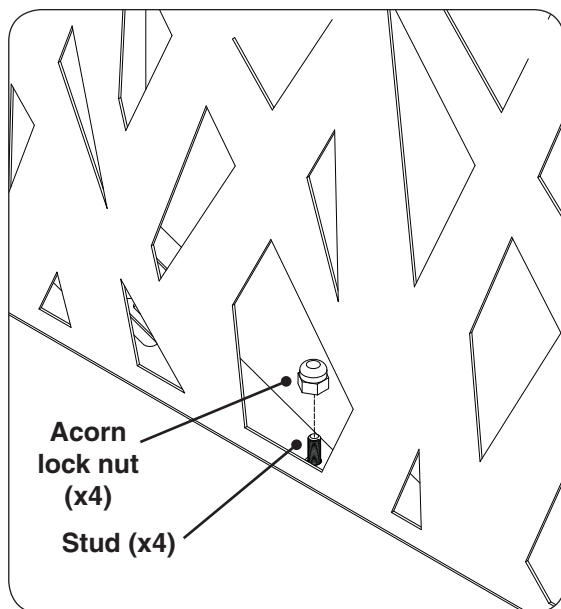

Fig. 19-2 Fasten top assembly to base
2. Using a $\frac{3}{8}$ " socket driver and the four acorn lock nuts provided, fasten the top assembly to the lantern base as shown in Fig. 19-2.